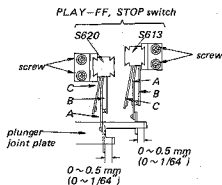

Fig. 3-22. PLAY-FF, STOP switch (S613, 620) position adjustment
1. Place the unit in the STOP mode. See Fig. 3-22. Make sure that the distance between the plunger joint plate and the leaf A of the leaf switch is 0 to 0.5 mm ( $1/64$ "), and also that the leaves A and B are in contact with each other completely. If necessary, adjust the switch position by loosening the screws.